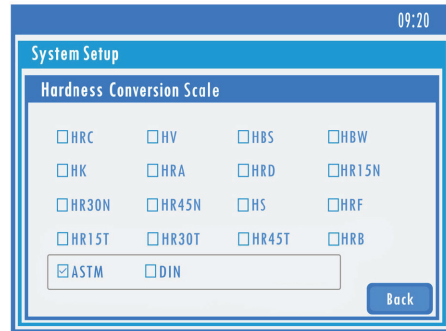

Fig 5-3 Hardness Conversion and Standard
- 1. **[Conversion Scale]:** Click the box on right of scale, can select 2 scales at a time: HRC, HV, HBS, HBW, HK, HRA, HRD, HR15N, HR30N, HR45N, HS, HRF, HR15T, HR30T, HR45T, HRB, see Fig5-3.
2. **[Conversion Scale]:** Under conversion scales, there are 2 options ASTM and DIN. see Fig5-3.
2) Select hardness conversion scale, see Fig 5-3.